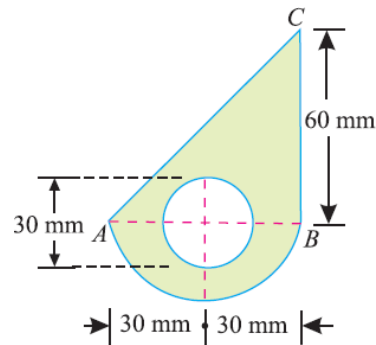

Fig.21
1. Find the moment of inertia of the lamina with a circular hole of 30 mm diameter about the axis AB as shown in Fig.21 [10 M]